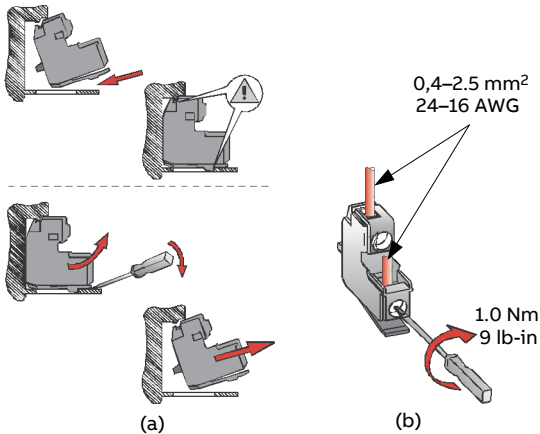
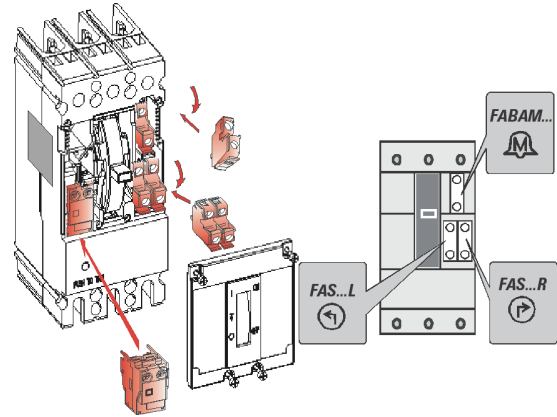
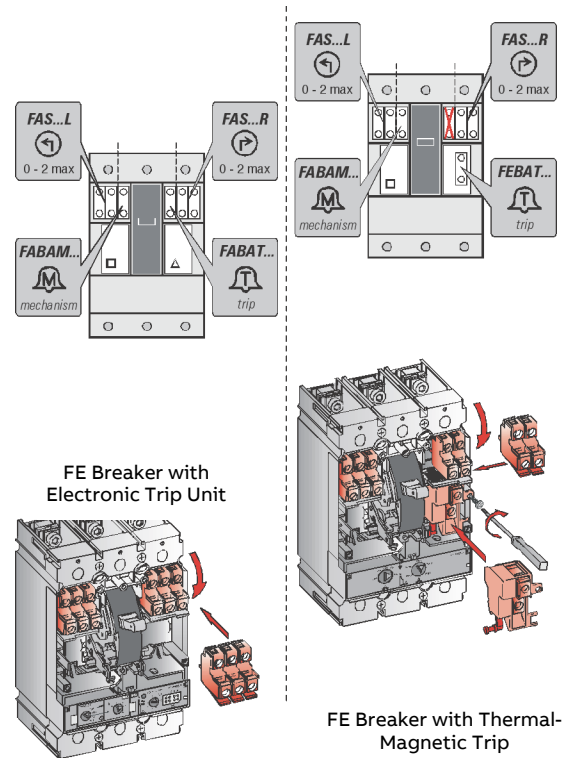
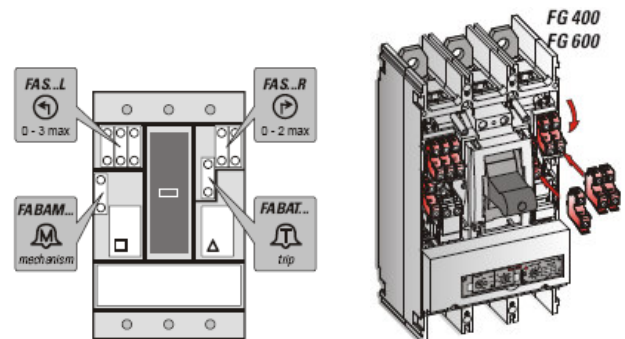

Figure 4. (a) Installing and removing a snap-fit accessory.
Figure 5. Accessory locations in FB/FC circuit breakers.
Figure 6. Accessory locations in FE circuit breakers.
Figure 7. Accessory locations in FG circuit breakers.
2. Each switch snaps into place in its designated pocket, as shown in Figure 4(a). It can also be easily removed with the aid of a small screwdriver, as shown. The proper pockets for each device are illustrated in Figure 5 for FB/FC breakers, in Figure 6 for FE breakers and in Figure 7 for FG breakers. Each breaker pocket is clearly marked with the symbol for the device that it accepts.
3. If the accessory was not factory wired, connect the wires to the lugs on the accessory, as shown in Figure 4(b). For screw-type terminals, the recommended wire size is #24–16 AWG (0,4–2,5 mm2), with V insulation, and a maximum diameter of 0.100 in. (2.54 mm). Tighten the terminals to 11 lb-in (1.2 Nm).